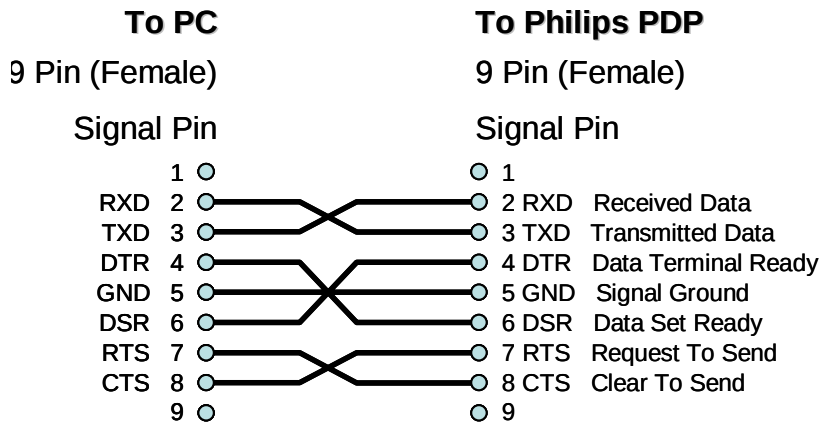

Figure-1
- 1、Prepare 1 piece of RS232 cable (The Pin connection see the Figure-1 , If difference, please re-connect the cable) and 1 set of PC.